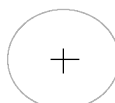

Fig. 63 - Service Label Information
6. Verify that the Status LED glows. If not, check that the power supply is energized and that the blower door is secure. See Fig. 63 to interpret diagnostic codes.
Refer to the service label. See Fig. 63.
For an explanation of status codes, refer to service label located on control door or Fig. 63, and the troubleshooting guide which can be obtained from your distributor.
The stored status codes will NOT be erased from the control memory when 115- or 24-v power is interrupted. See the Service Label (Fig. 63) for more information. The most recent fault code may be retrieved as follows:
2. Observe the status LED through the blower door (the lower door on upflow applications) indicator. Refer to the Service Label (Fig. 63) to interpret the LED.
5. The LED will flash the last stored fault code. Refer to the Service Label (Fig. 63) to interpret the LED.